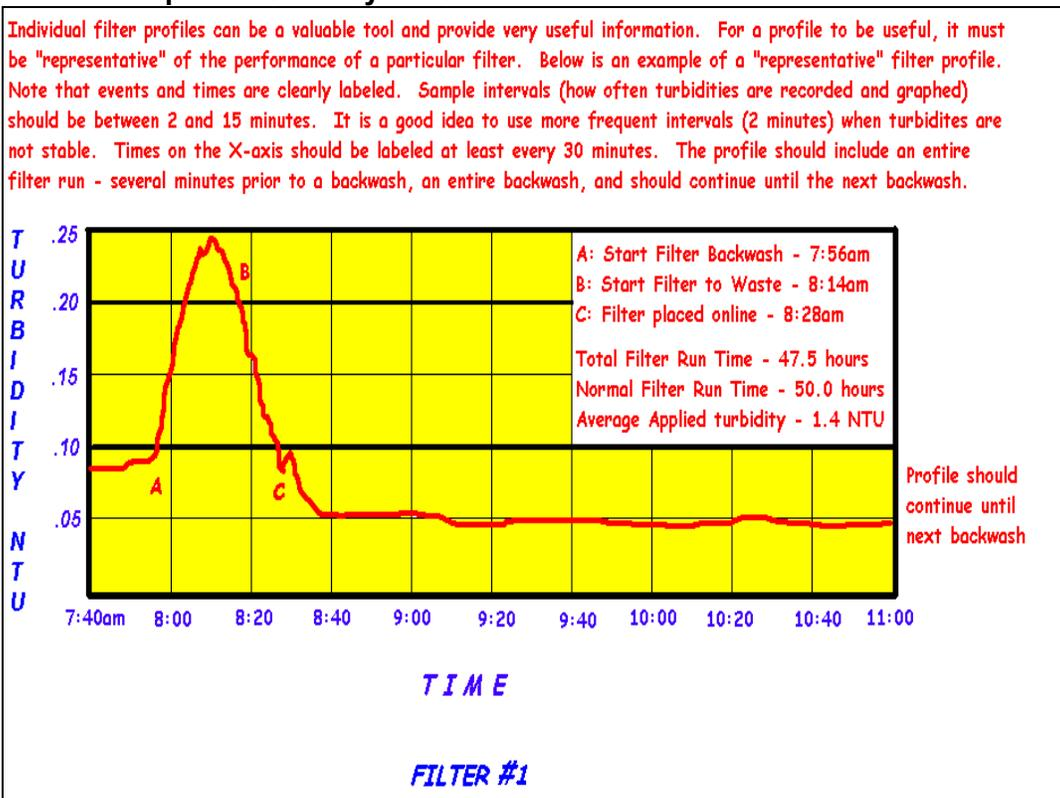

Figure 1
- Send Five (5) Copies of the Report.**
- Turbidity Graph Showing Individual Filter Performance Immediately Following Backwash-** Provide a turbidity graph of a complete filter run for each filter (or a representative number of filters). Make sure that turbidity readings are provided at frequent enough intervals (perhaps every two minutes) to illustrate the post-backwash filter performance (Figure 1 below is an example). Discuss the post-backwash turbidity spike and your strategy to reduce the intensity and duration of the spike. If you employ filter-to-waste, state your policy regarding when a filter is returned to service **and** include any studies that support your procedure. If there is a difference in the performance of one (or more) filters be sure to provide a discussion.